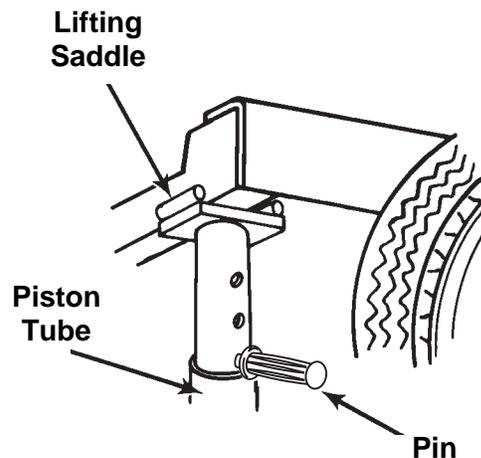

Figure 1
5. Using the control valve lever, apply shop air until the jack saddle meets the load to be raised. Lifting saddle must cradle the lifting point by nesting around the frame, bumper, or bed. See Figure 1.